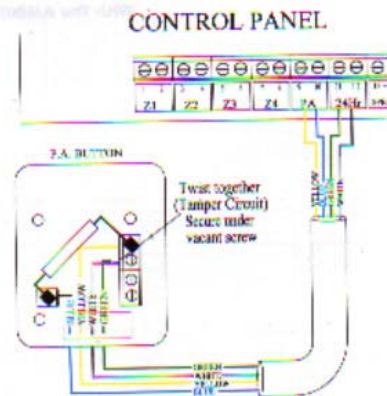

Fig. 18. PA Button Wiring Diagram
2. If single PA buttons are connected to the PA zone, strip back 5mm of each core, then connect the yellow and blue alarm wires to the appropriate terminals, as shown in Fig. 18. Twist the green and white 24 hour wires together and secure under the spare terminal shown.
4. Ensure that the battery is disconnected and no mains supply is connected to the control panel. Remove the PA zone wire link, then connect the wires to the control panel terminals as shown in Fig. 18.